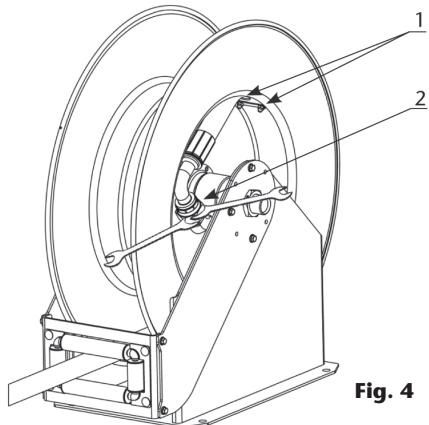

Fig. 4
**2.** Remove the U-bolt by loosening its nuts (1) and disconnect the hose from the swivel (2) by using two wrenches (Fig. 4).
**4.** Connect the new hose to the swivel by using two wrenches. Place the U-bolt in such a way that it firmly holds the hose against the spool, and pull the hose in order to unlock the ratchet (Fig. 4).